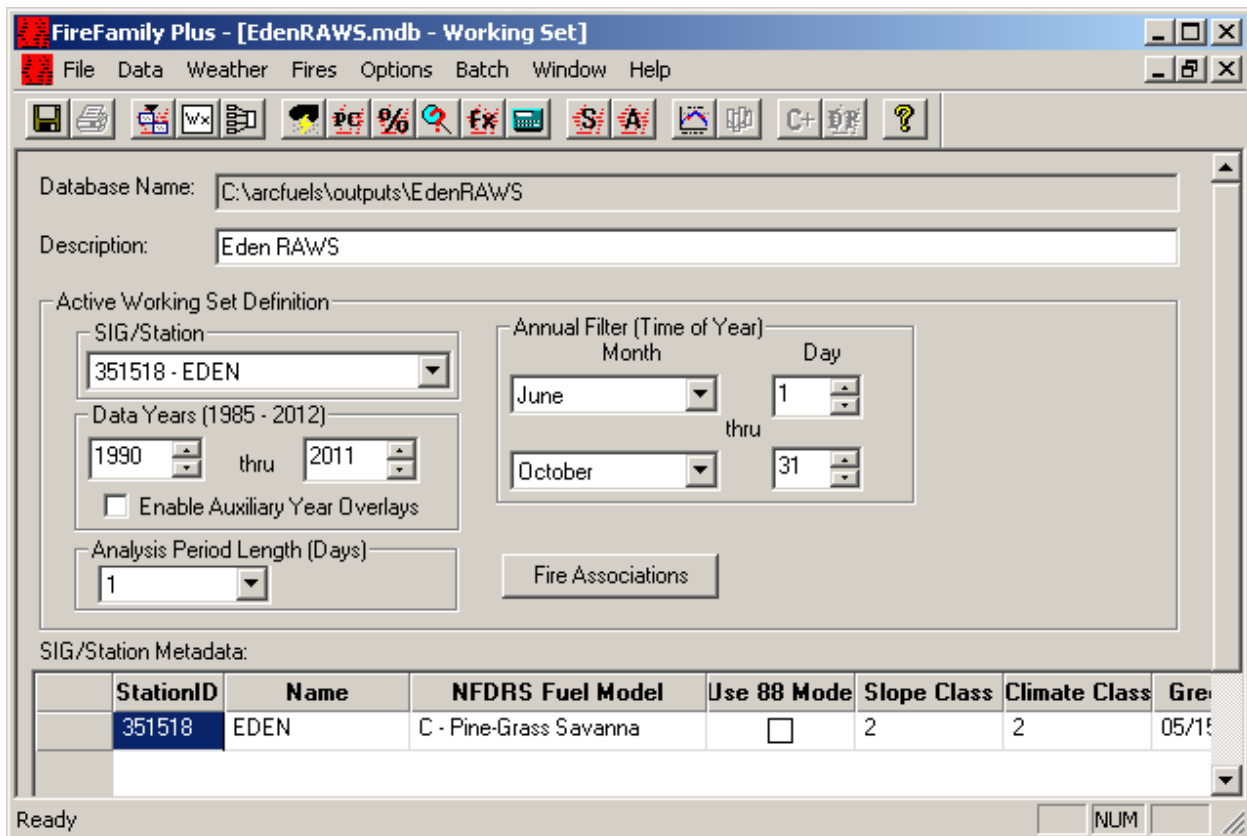

Figure 3-24—Main FFP page with the EDEN RAWS selected.
- 1) On the home FFP screen, the *Active Working Set Definition* will be updated to represent the fire season for the wind analysis (fig. 3-24).